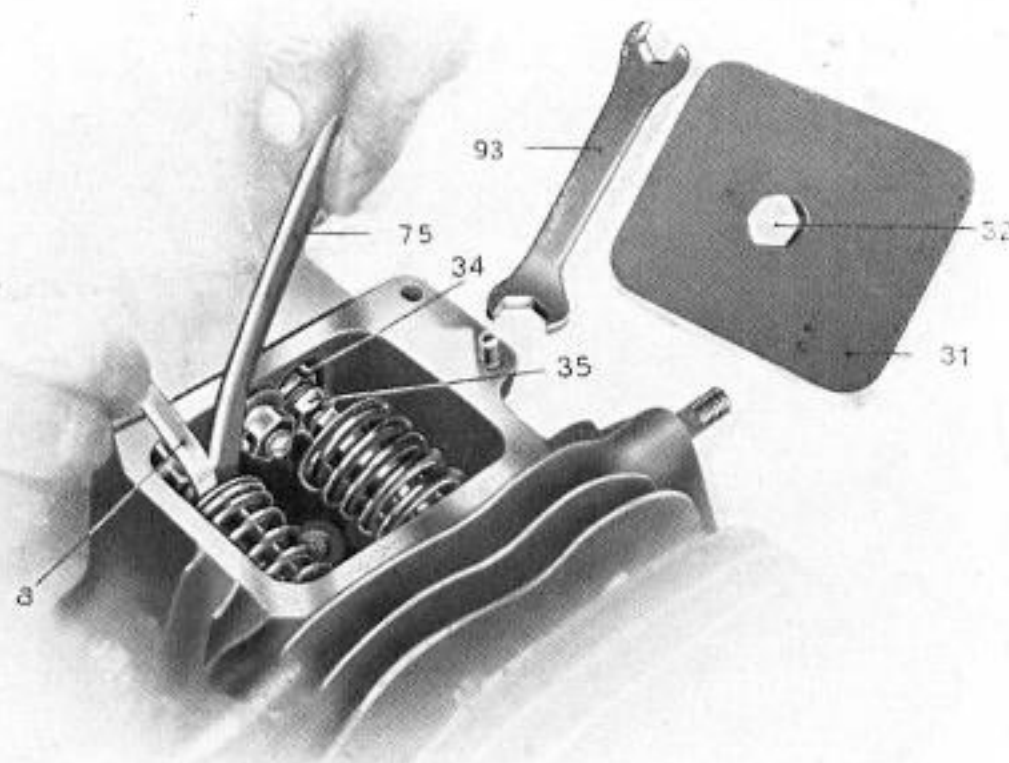

Fig. 11 Adjustment of the valve clearance of the touring machine
Also the valve clearance between the valve stem 36, and the tappet screw 35 or the thrust screw 3 (figs. 11, 12 and 20) which should amount to about 0,004" (0.1 mm) with the **cold** engine, must be checked from time to time. For this purpose it is best to use a narrow strip of note paper which corresponds approximately to the clearance. The adjustment of the valve clearance of both machines is described below; as said before, it must not be done except with the **cold engine**.
**Touring machine:** First the cover 31 to the valve chamber is taken off by unscrewing the head screw 32 connected with same (figs. 11 and 20). Before adjusting convince yourself that the tappet 35 seats on the circular
part of the cam and that it does not by any chance touch the ascending or descending cam curve, which is easily determined by turning the crankshaft slightly forwards or backwards by means of the kickstarter. In doing so the tappet 35 must neither rise nor sink. The tappet is held firmly in position by means of the key 75 supplied with the tools and the lock nut 34 located on the tappet is unscrewed with the second key 93. Now screw 35 on the tappet can be adjusted in such a way that the paper strip A can be introduced between valve stem and tappet screw 35 without difficulty. If the adjustment is correct, the lock nut 34 is tightened again, whilst the tappet screw 35 is held fast with the key 93. After this the valve chamber must be closed again by the cover 31 (fig. 11).